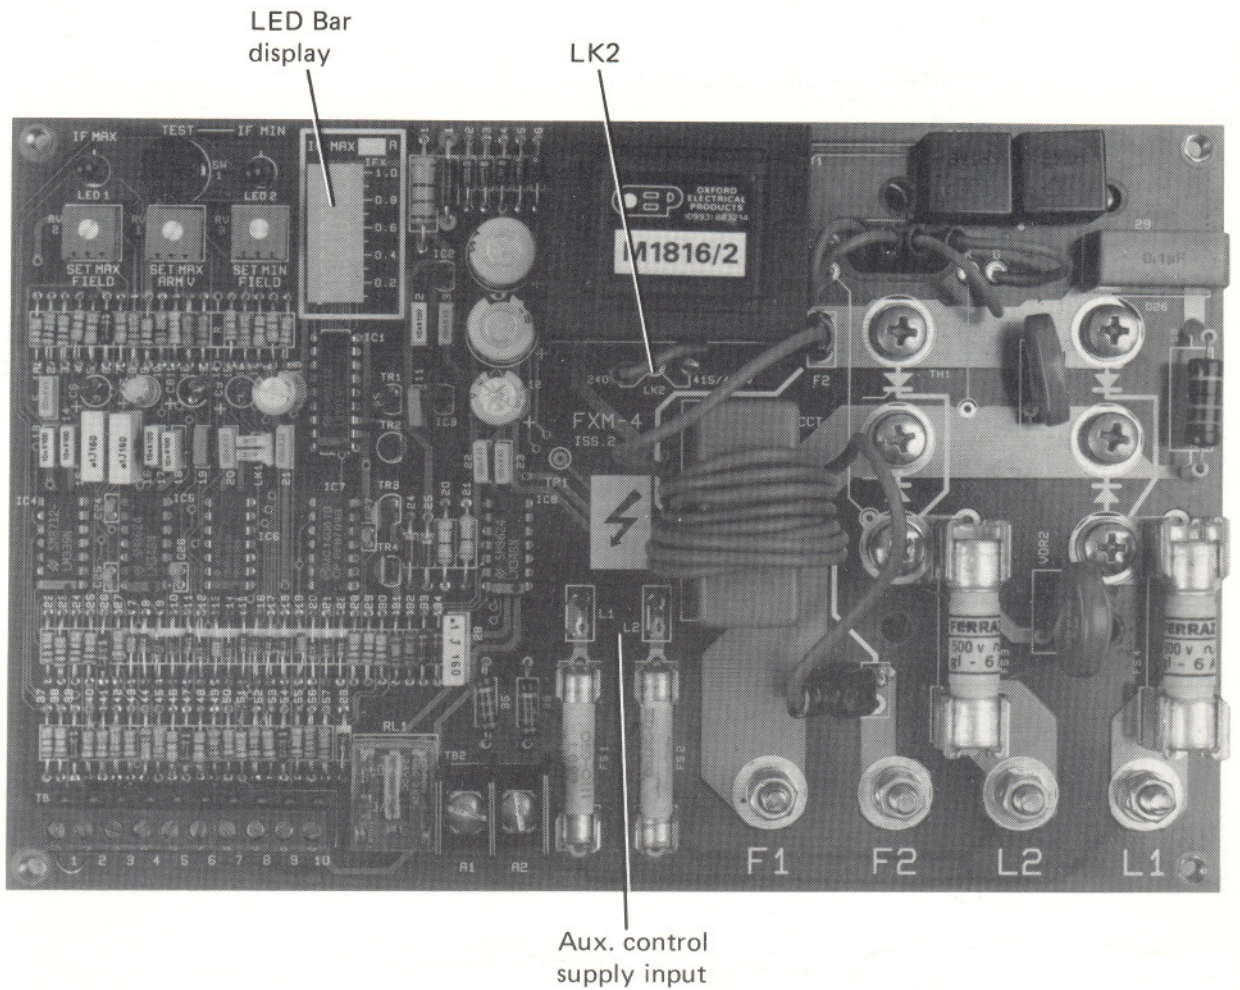

Fig. 1 FXM4 Field Controller
The unit has two voltage ranges set by LK2 (see Fig. 1). With LK2 in the 240V position a unit will operate from 220V – 6% to 240V + 6%. With the link in the 415V position the unit will operate from 380V – 6% to 480V + 6%.
The controlled rectifier part of the circuit may be operated from any AC voltage less than 480V provided the control circuit is supplied within the above range. To achieve this remove fuses FS1 and FS2 and connect control circuit supply to two push-on connectors situated just above the fuses (see Fig. 1).
A 'Bar LED' meter is provided to give an indication of field current. Full scale indication is $1.0 \times I_F \text{ max.}$ The value of $I_F \text{ max.}$ is indicated on the printed circuit board (fig. 1). RL1 functions as a field failure relay and closes and opens when the $0.1 \times I_F \text{ max.}$ LED is energised and de-energised respectively.
7.1 Printed Circuit Board (FXM4) (Fig. 1)